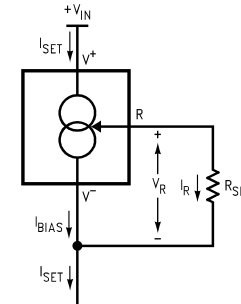

Figure 13. Basic Current Source
- (1) Unless otherwise specified, tests are performed at $T_j = 25^\circ C$ with pulse testing so that junction temperature does not change during test.
- (2) Set current is the current flowing into the V^+ pin. For the Basic 2-Terminal Current Source circuit shown in Figure 13, I_{SET} is determined by the following formula: $I_{SET} = 67.7 \text{ mV}/R_{SET}$ (@ $25^\circ C$). Set current error is expressed as a percent deviation from this amount. I_{SET} increases at $0.336\%/^\circ C$ @ $T_j = 25^\circ C$ ($227 \mu V/^\circ C$).
- (3) I_{SET} is directly proportional to absolute temperature ($^\circ K$). I_{SET} at any temperature can be calculated from: $I_{SET} = I_0 (T/T_0)$ where I_0 is I_{SET} measured at T_0 ($^\circ K$).
The total current through the LM134 (I_{SET}) is the sum of the current going through the SET resistor (I_{R}) and the LM134's bias current (I_{BIAS}), as shown in Figure 13.